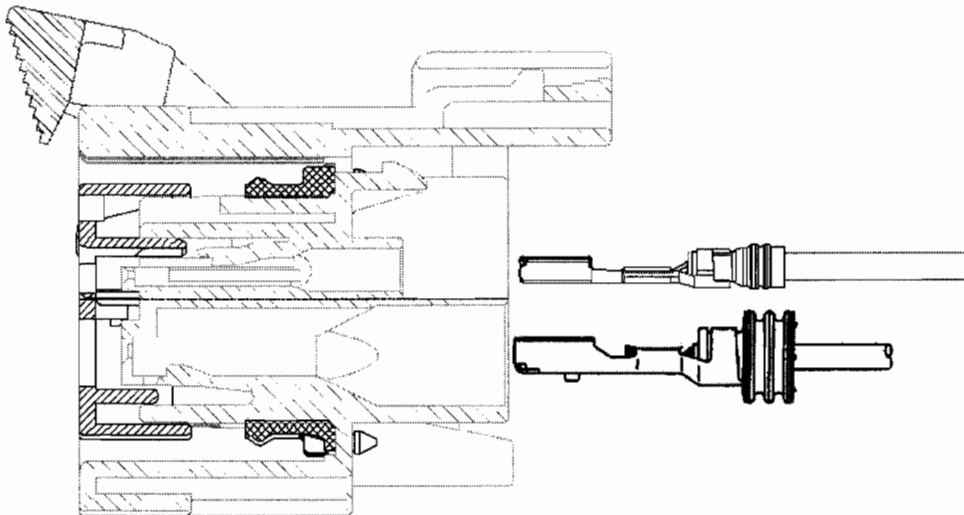

Figure 7-1A
- 3.) Place the terminal and the housing as shown in Figure 7-1A below. Insert the terminal into the housing. An audible 'clicking' sound indicates that the terminal is fully locked to the housing